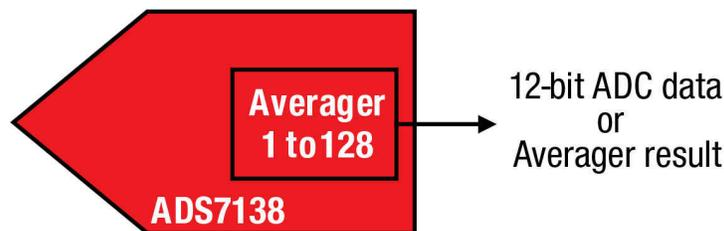

Figure 7. Averaging Feature inside ADS7138
- Output averaging to improve noise performance** It is a common practice to average sensor readings over a short period of time to reduce the effects of noise in the system. As shown in Figure 7, the ADS7138 can average as many as 128 samples, reducing the effects of noise by over 10 times.